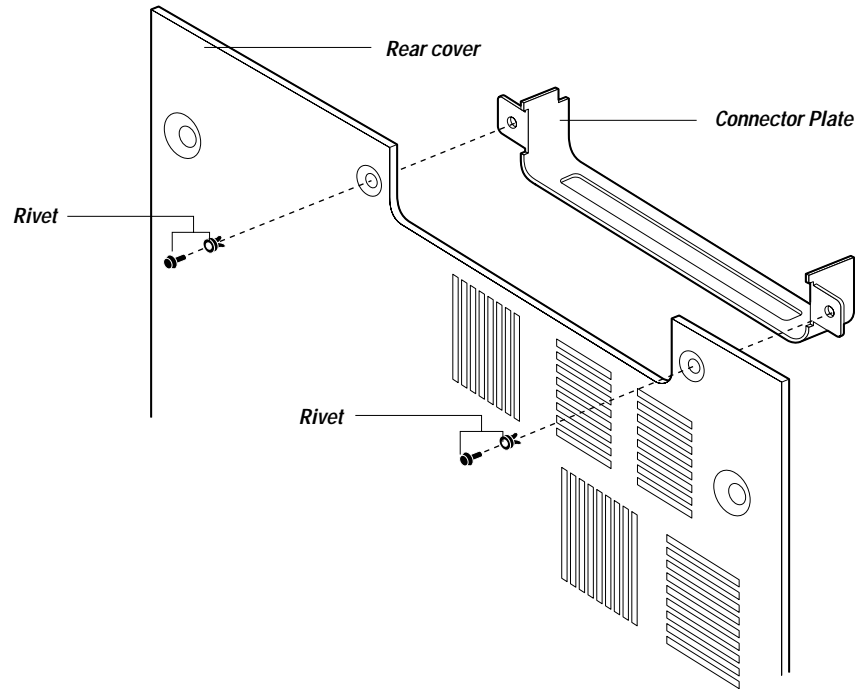

Figure 2-5 Installing the connector plate in the rear cover
2. *Place the connector plate in the empty slot on the inside of the rear cover (see Figure 2-5 on page 2-7).*
3. **Insert the black rivets into the connector plate to secure it to the rear cover as shown in Figure 2-5.**